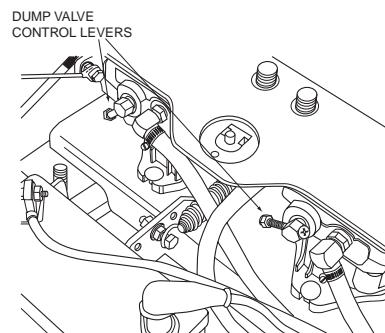

Figure 4-2 Dump Valve Control
- 11. Dump Valve Control Levers (Figure 4-2).** Located on the hydraulic pumps, used to "free-wheel" the mower. Rotating the levers clockwise until they stop allows the unit to move under hydraulic power. The levers must be in this position and torqued to 10ft/lbs for proper operation of the mower drive system. Rotating the levers counter-clockwise, 1-2 turns, allows the mower to be moved by hand (free-wheeling).
To “free-wheel” or move the mower around without the engine running, place the dump valve levers in the FREE-WHEEL position (Figure 4-2, page 13). Disengage the parking brake and move the mower by hand. The dump valve levers must be returned to the DRIVE position and torqued to 7-10 ft/lbs to drive the mower.